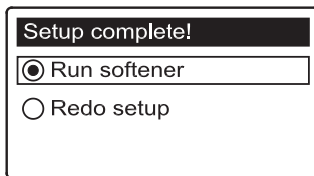

FIG. 22
26. Press the SELECT (O) button. The screen will show “Setup complete!” (See Figure 22).
27. If, at this point, you want to go back and make changes, press the DOWN (▼) button to scroll to **Redo setup**, then press the SELECT (O) button twice to repeat the “wizard” screens.
28. If no changes are desired, make sure **Run softener** has a black dot next to it (See Figure 22) and press the SELECT (O) button. The unit begins normal operation, described on Page 23.